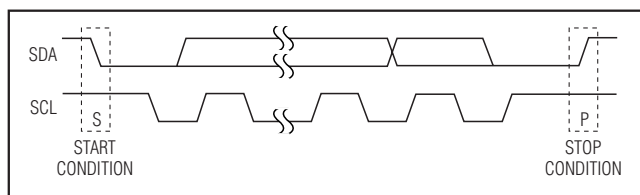

Figure 3. Start and Stop Conditions
Each transmission consists of a START condition (Figure 3) sent by a master, followed by the MAX7316 7-bit slave address plus R/ $\overline{W}$ bit, a register address byte, one or more data bytes, and finally a STOP condition (Figure 3).
Both SCL and SDA remain high when the interface is not busy. A master signals the beginning of a transmission with a START (S) condition by transitioning SDA from high to low while SCL is high. When the master has finished communicating with the slave, it issues a STOP (P) condition by transitioning SDA from low to high while SCL is high. The bus is then free for another transmission (Figure 3).